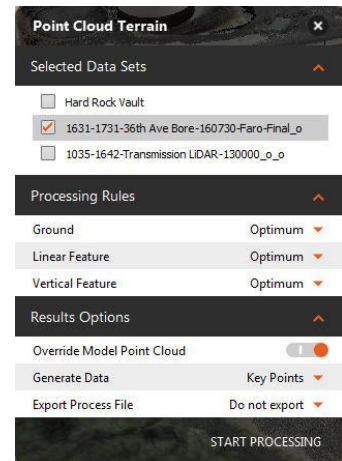

Figure 21: Point Cloud Terrain Settings
- Select the correct point cloud and terrain settings (Figure 21)